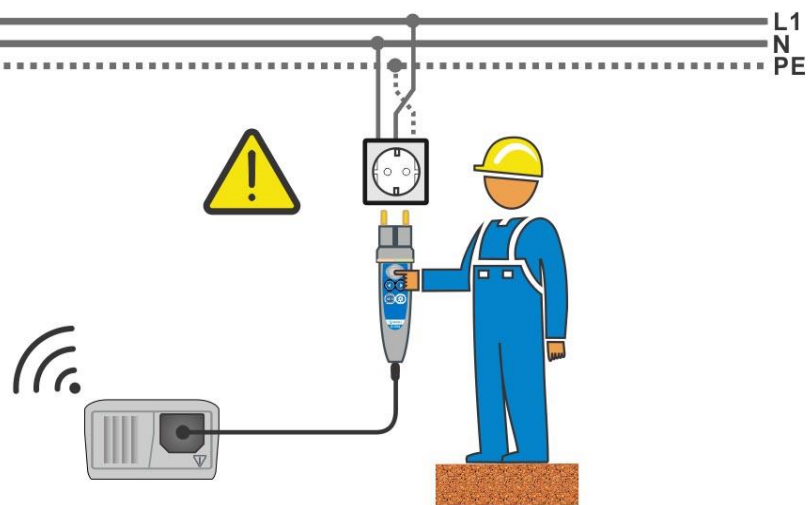

Figure E.4: Reversed L and PE conductors (application of plug commander)
- ❑ **Connect** commander to the item to be tested (see figure E.4 and E.5).